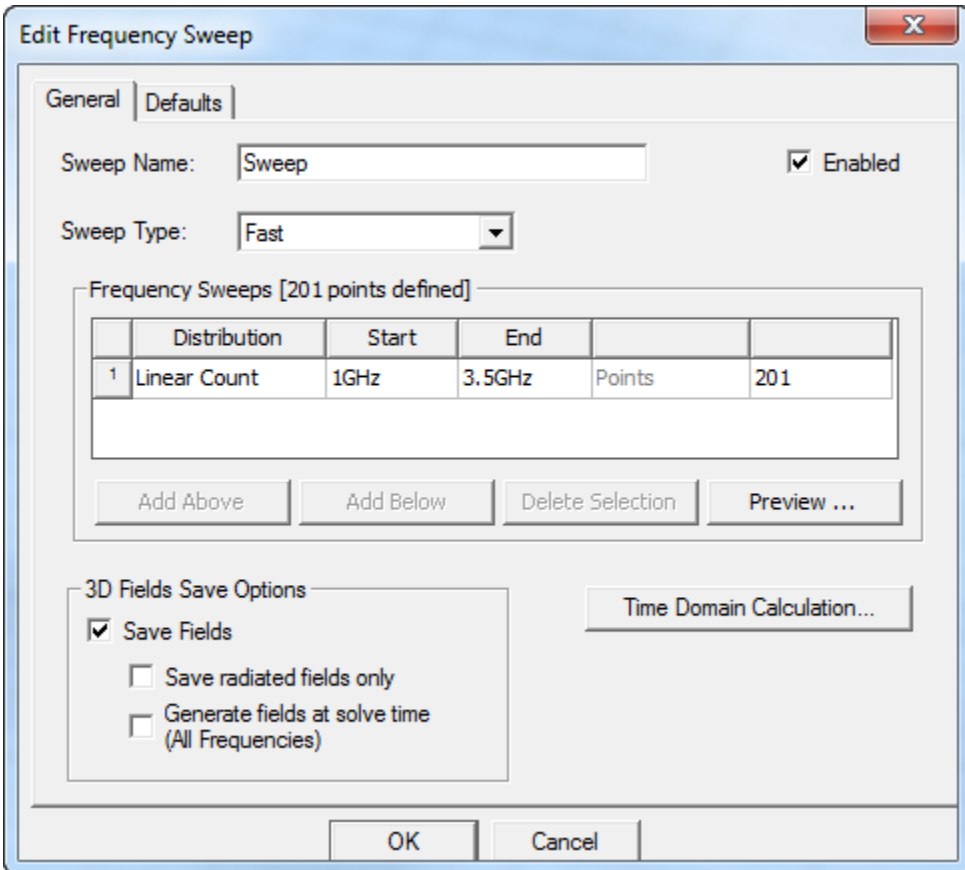

Figure 2. Edit Frequency Sweep dialog box
- 2 Edit the fields as shown in Figure 2 and click **OK**.